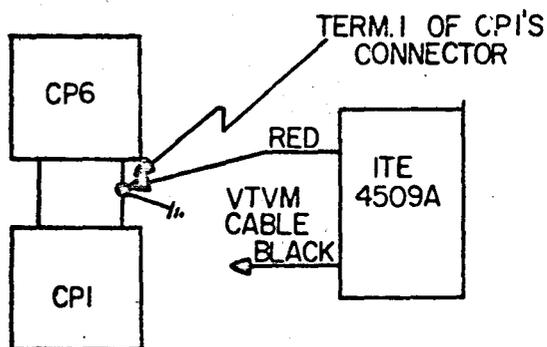

Fig. 1
3.114 Connect the ITE-4509A VTVM as illustrated in Figure 1.